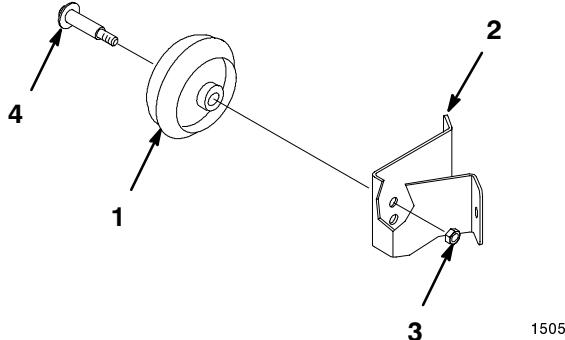

Figure 6
1. To change the height of the mower front wheels, remove the wheel mounting bolt and change the hole into which the wheel is mounted (Fig. 6).
2. Use the top hole for the lowest cutting height and the bottom hole for higher cutting heights (Fig. 6).